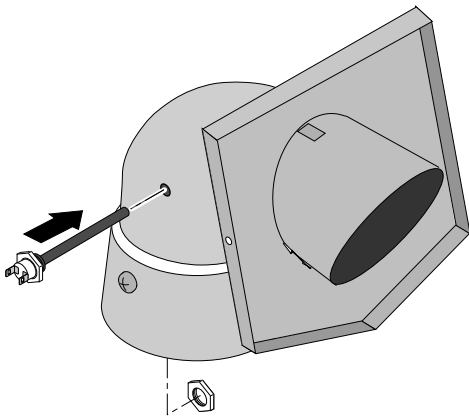

Figure 4: Apply 600°F RTV to sealing faces of probe and nut and install probe.
9. Apply UltraCopper[®] RTV Silicone (supplied) to the sealing faces of the Probe and its nut and install the Probe in the 3/8" hole in the Metal Elbow (Figure 4).